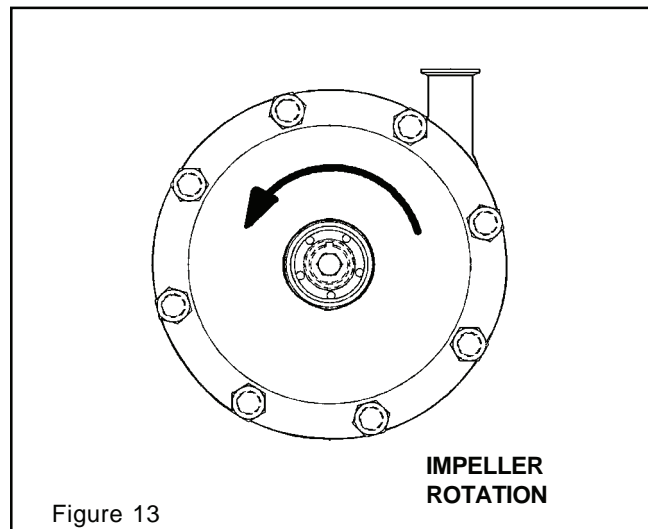

Figure 13
3. Following electrical installation, check pump rotation. **Facing pump, the correct rotation is counterclockwise.** (Figure 13)